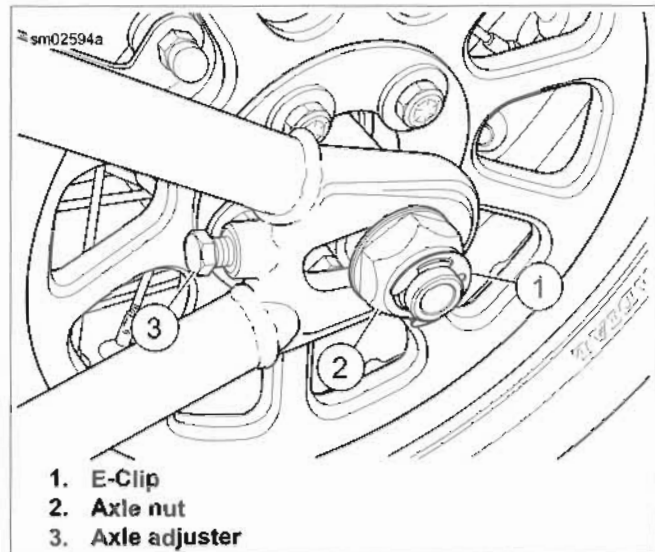
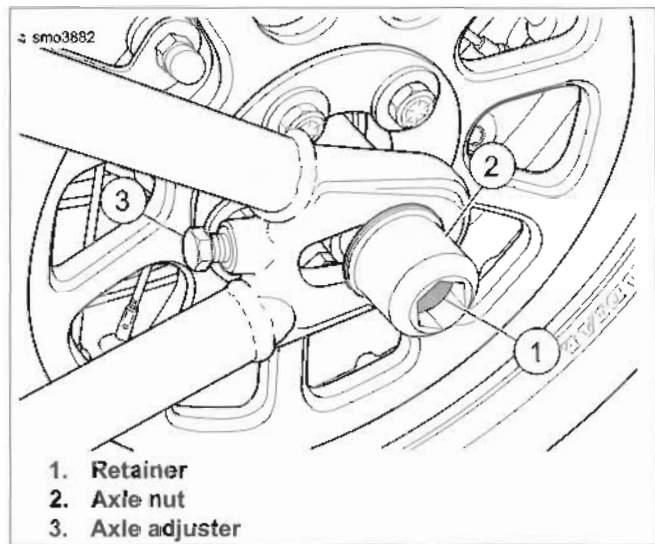

Figure 1-25. Axle Adjusters
Figure 1-26. Axle Adjusters: FXSB
1. **All but FXSB:** See Figure 1-25. Remove e-clip (1). Loosen rear axle nut (2).
2. **FXSB:** See Figure 1-26. Loosen rear axle nut (2).
3. Adjust belt tension by turning the axle adjusters (3) an equal number of turns to keep the wheel aligned until the specification in Table 1-13 is achieved.
4. Tighten axle nut (2) to 95-105 ft-lbs (128.8-142.4 Nm).
5. **All but FXSB:** See Figure 1-25. Install e-clip.